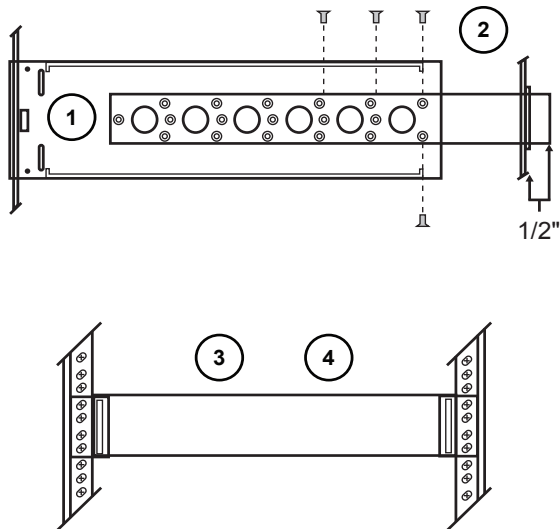

Figure 1.1 Installing the Frame in an Equipment Rack
1. The rear support bars can be attached to the frame in one of the possible positions illustrated in Figure 1.1. Choose the position that suits the cabinet depth that will give approximately 1/2 inch projection beyond the rear vertical mounting rails.